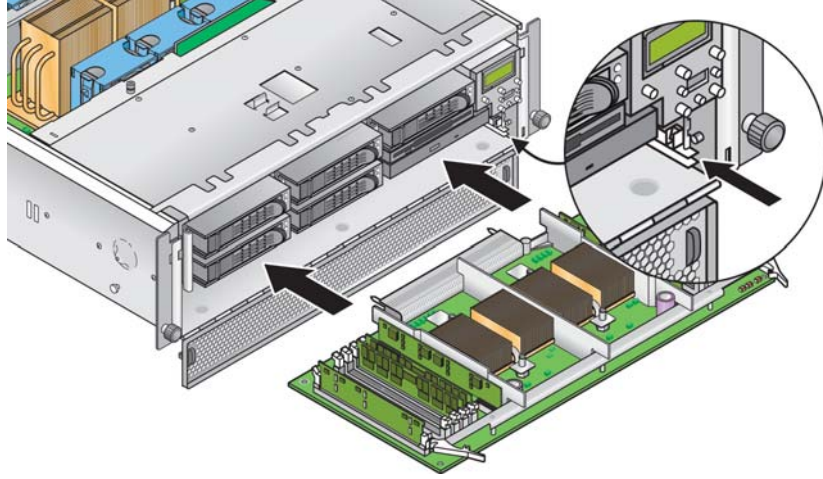

FIGURE 5-16 Installing the CPU Card Into the Chassis
8. After you install all components to the new CPU card, install it into the server (see FIGURE 5-16):